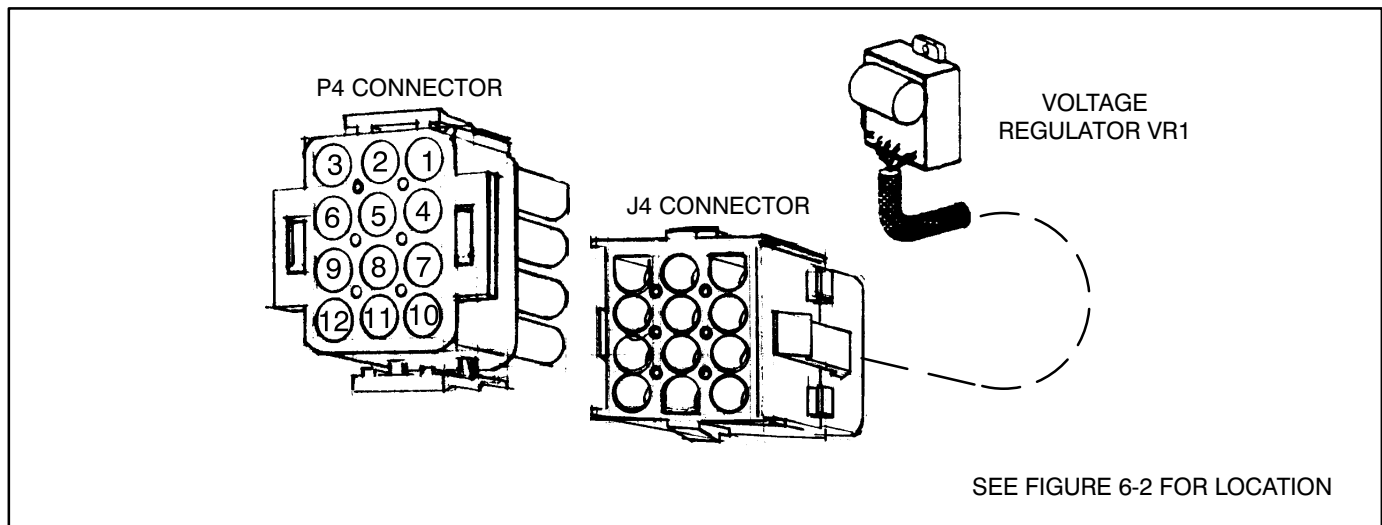

FIGURE 9-5. VOLTAGE REGULATOR CONNECTOR PLUG (P1)
The voltage regulator plug J4 remains connected to wire harness plug P4 for Test A and B. The voltmeter leads should be secured so that they are not being held during testing. (Use long pointed test leads or paper clips connected with alligator clips to the test leads.) Refer to Figure 9-5.
1. Disengage the J4 wiring connector and remove the voltage regulator (Figure 9-5).